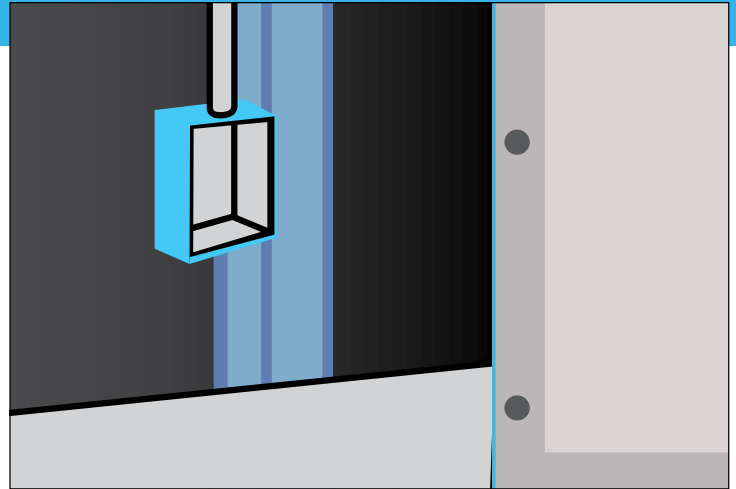

Fig. 1: QuietPutty® wrapped around electrical box
1. Apply QuietPutty® to outside of flush mounted boxes. (Fig. 1)